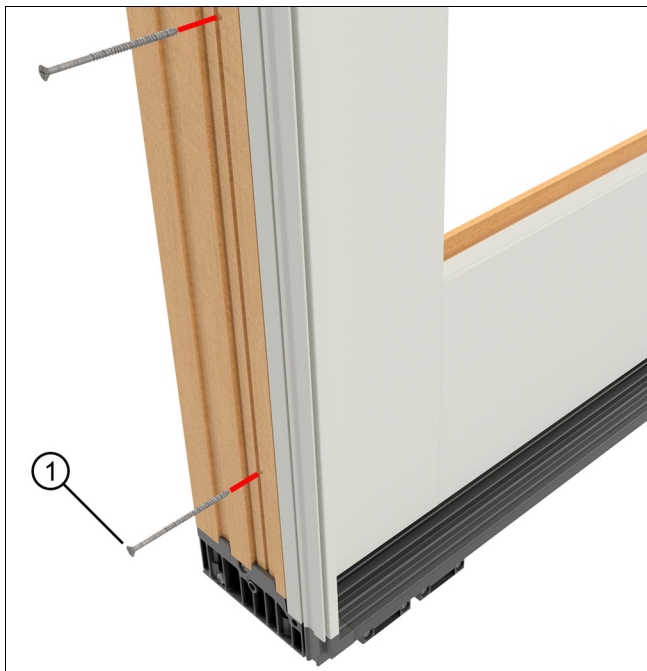

Figure 61
9. Fasten the jamb to the panel with the #8 x 3" flat head screws. See Figure 61.